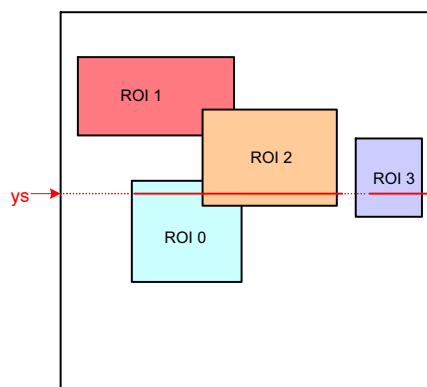

Figure 24. Scanning the Image Array with Four Windows
Figure 24 illustrates a practical example of a configuration with five windows. The current position of the read pointer ( $ys$ ) is indicated by a red line crossing the image array. For this position of the read pointer, three windows need to be read out. The initial start position for the  $x$ -kernel pointer is the  $x$ -start configuration of ROI0. Kernels are scanned up to the ROI2  $x$ -end position. From there, the  $x$ -pointer jumps to the next window, which is ROI3 in this illustration. When reaching ROI3's  $x$ -end position, the read pointer is incremented to the next line and  $xs$  is reinitialized to the starting position of ROI0.
- The read pointer is not necessarily incremented by one, but depending on the configuration, it can jump in  $y$ -direction. In Figure 24, this is the case when reaching the end of ROI0 where the read pointer jumps to the  $y$ -start position of ROI1.